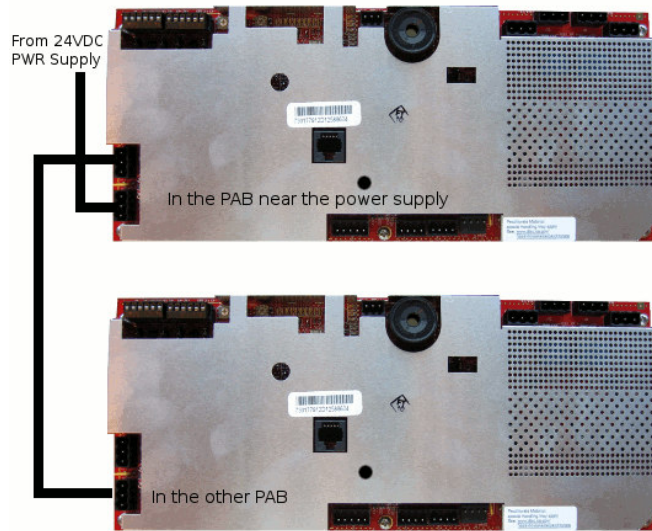

Figure 13 24 VDC power supply wiring method
A Checkpoint certified 24VDC power supply can power up to two (2) PABs. It is recommended to wire the 24VDC power supplier to the nearer PAB (J8), then, connect wire from this PAB's J12 connector to the J8 connector in the other PAB (J8). (See Figure 13 24 VDC power supply wiring method). 24VDC power cable uses AWG18 two (2) conductor cable.